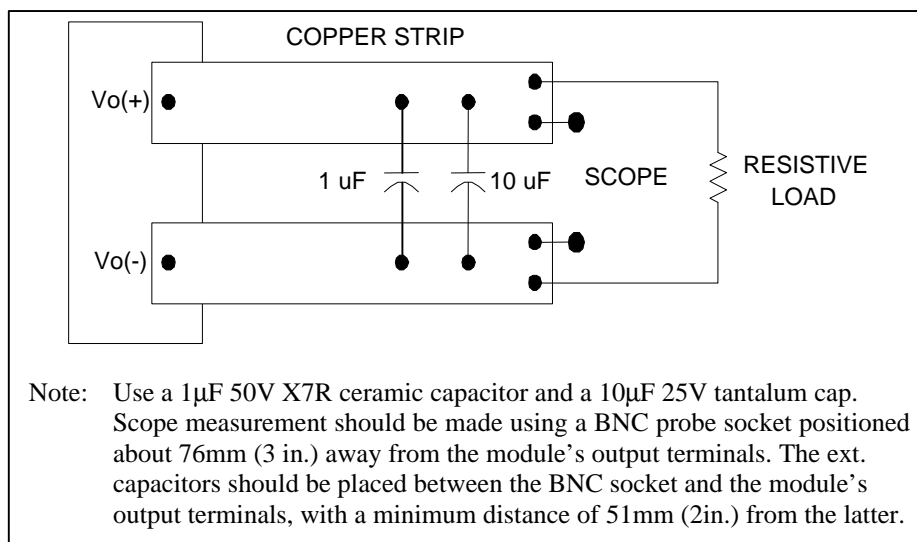

Figure 2. Peak to Peak Output Noise Measurement Setup.
5. Channel under test shall be set to full load with the other channel set to $I_{O,min}$ - See Fig 2.